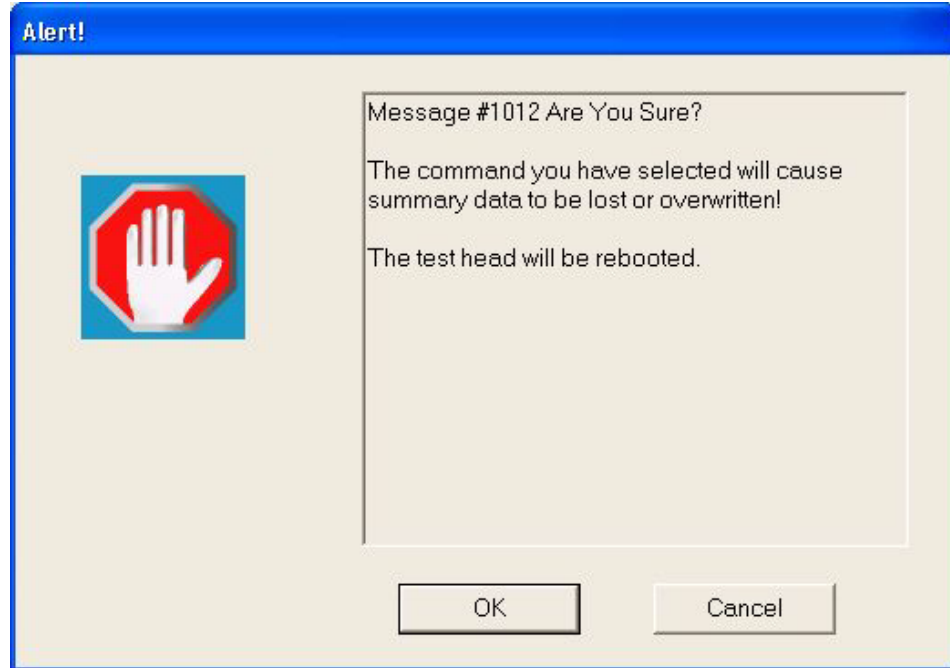

Figure 5-39. Red Hand Alert Are You Sure Dialog Box
- 5 Selecting the **Save** button in the dialog box displays a Red Hand Alert dialog box that warns about the loss of summary data (Figure 5-39). The `TEST_PLAN_WARNING` plan file configuration switch controls whether this dialog box displays. The default is for it to display.